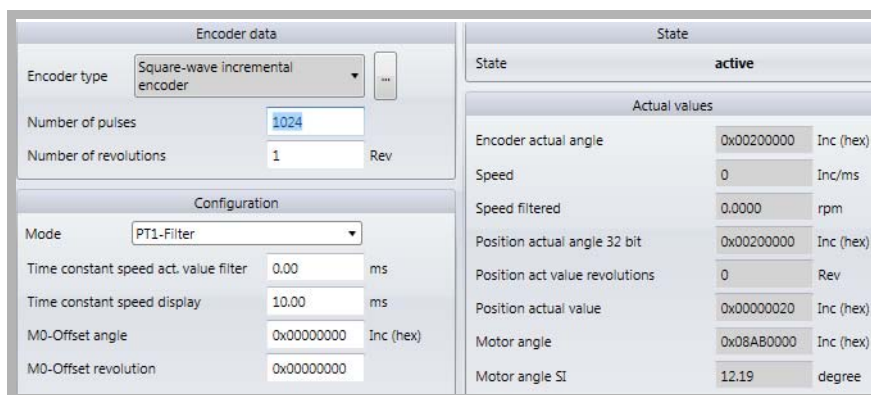

Figure 16: Window Encoder 2 - Configuration
- 9 Set all values and selections according ▶Figure 16◀ in this window.